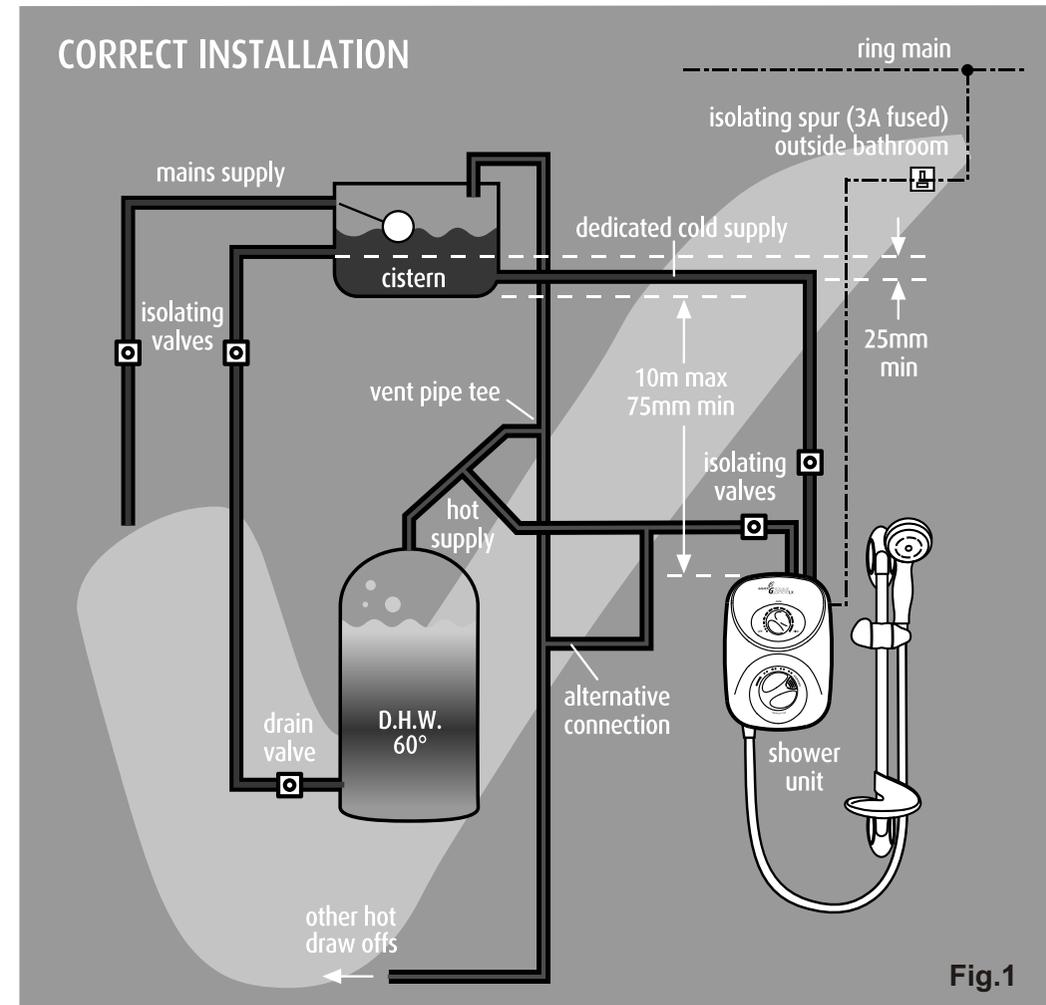

Fig.1
Fig.1 shows a recommended installation where the HOT water supply for the shower is made via a tee connection on the underside of the horizontal section of pipework from the cylinder. Alternatively,
The HOT water supply can be taken from the HOT supply pipe from the cylinder, making sure that it is the first draw-off below the ventilation pipe tee in order to minimise the effects of water draw-off elsewhere in the house (see fig.1).
**Note:** There must not be any other draw-offs between the take-off point and the shower. A dedicated COLD water supply must be taken directly from the COLD must be positioned 25mm below the COLD feed connection to the hot water cylinder on the opposite side of the cistern to the float operated valve (see fig.1). This minimises air ingress into the pipework.